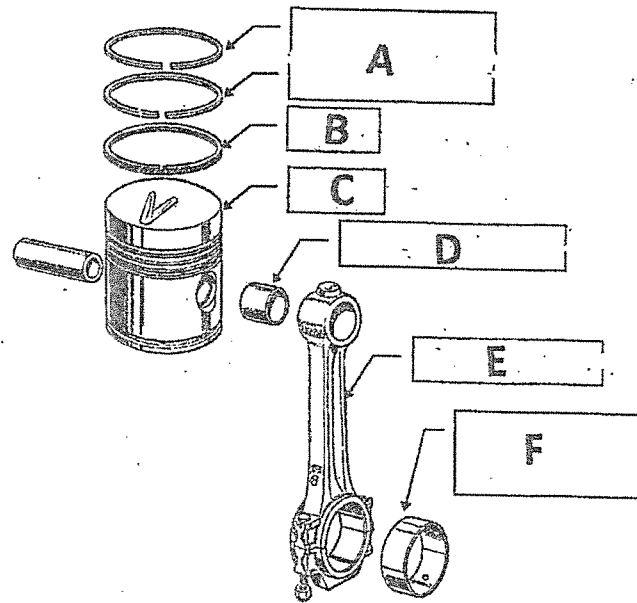

FIGURE 1
1.3 FIGURE 1 on DIAGRAM SHEET 1 (attached) shows a sectional sketch of a piston.